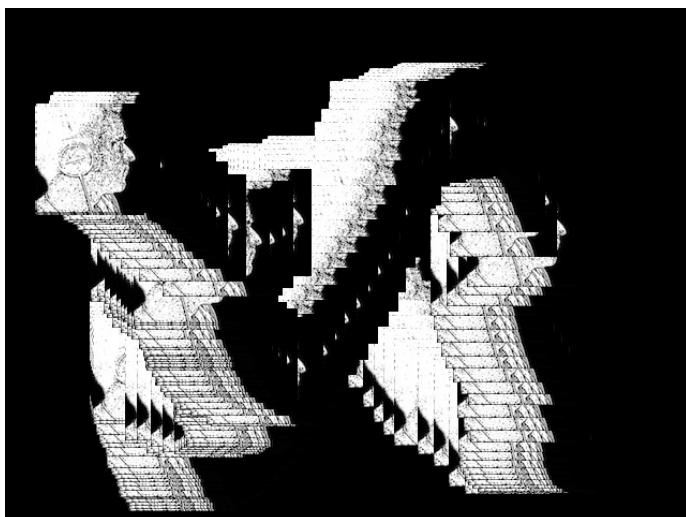
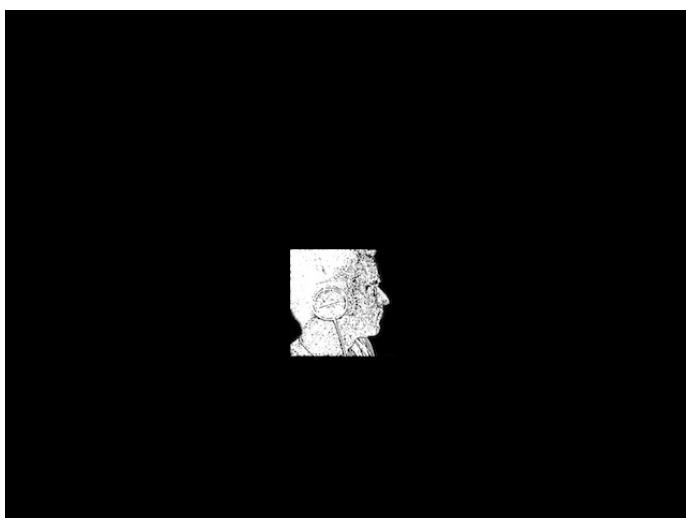

Figure 2-22. If we don't clear the background to black when moving an image around, the result will be a smeary mess.
Figure 2-23. Clearing the sketch's background to black prevents redrawing the image every time and creating a smeary mess.
- ③. The one other detail worth noting here is this. This clears the whole sketch to black. If we didn't do that, we'd end up seeing trails of our image as we moved it around. Remember, Processing always just draws on top of whatever is already there. If we don't clear our sketch to black, we'll end up constantly displaying our image on top of old copies of itself in slightly different positions. This will make a smeary mess (or a cool psychedelic effect, depending on your taste). Figure 2-22 shows what my version of the sketch looks like without that line. And Figure 2-23 shows what it looks like with the line back in.